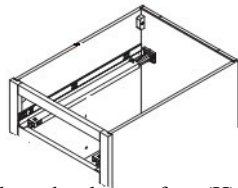

Figure 7
5. Installing the Drawer Slide Rails (Figure 7) :Insert the drawer slide rail backed into the holder previously installed (Step 4) on the back panel. Then secure the drawer rail front end with 1/2" screws using the pre-drilled holes in the face frame.(Repeat this step for more drawers.)